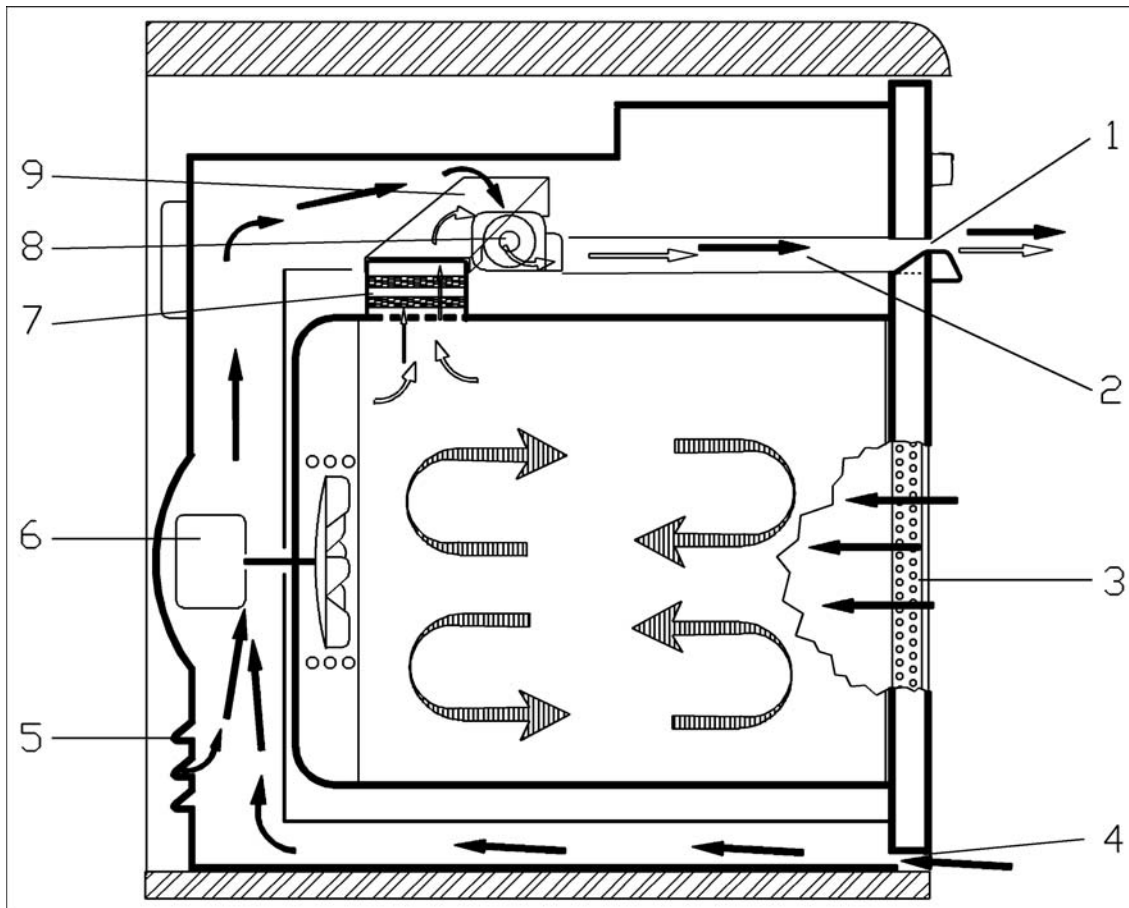

Figure 4-1: Cooling and Venting Air Paths – Novotronic Ovens H350/H373
1. Refer to Figure 4-1
2. Via the deflector strips (3)
3. Via the air intake under the door (4)
4. Via the air openings at the rear of the unit (5)
2. Via the cooling fan (8)
3. Via the air duct (9)